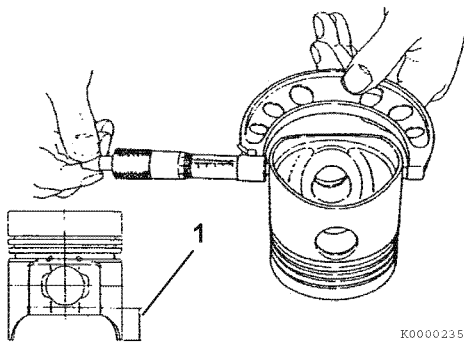

Figure 6-66
4. Measure the diameter of the piston skirt at 90° to the wrist pin bore as shown (**Figure 6-66**). Measurements must be taken at a specified distance (**Figure 6-66, (1)**) from the bottom of the piston, based on engine model. Record the measurements. See *Piston* on page 6-7 for specifications.